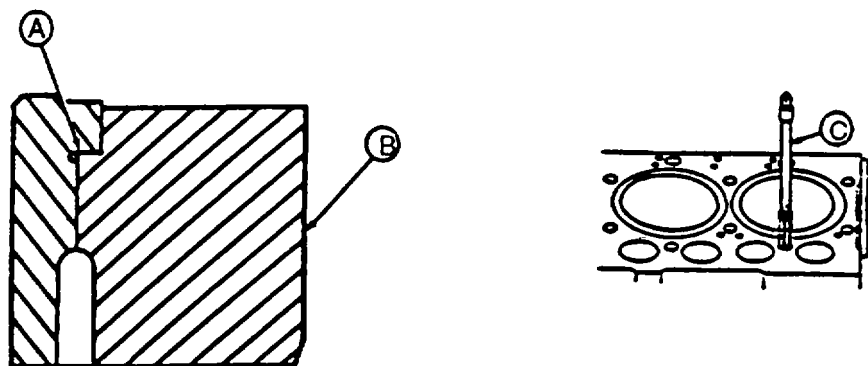

FIGURE 3-156. Inspecting Cylinder Block
Do not file liner support flange excessively. Excess filing can damage liner support flange and allow an improper liner fit. Thoroughly clean all filings from cylinder block (B, FIGURE 3-156).
- (6) Be sure liner support flange (A, FIGURE 3-156) is free of any burrs. If burrs are present, use a small half-moon file and lightly file (in a circular motion) burr off at approximately a 60 degree angle. Do not let file hit top of cylinder block while filing.
- (7) Carefully inspect cylinder block for cracks or damage. Replace block if there is evidence of physical damage.
- (8) When determined that cylinder block is serviceable, clean out threads for cylinder head capscrews in top deck of cylinder block using 1/2-13 UNC-2A x 4.00 inches (101.6 mm) long tap (C). Use compressed air to remove any debris or fluid which may be present in the tapped holes after cleaning.